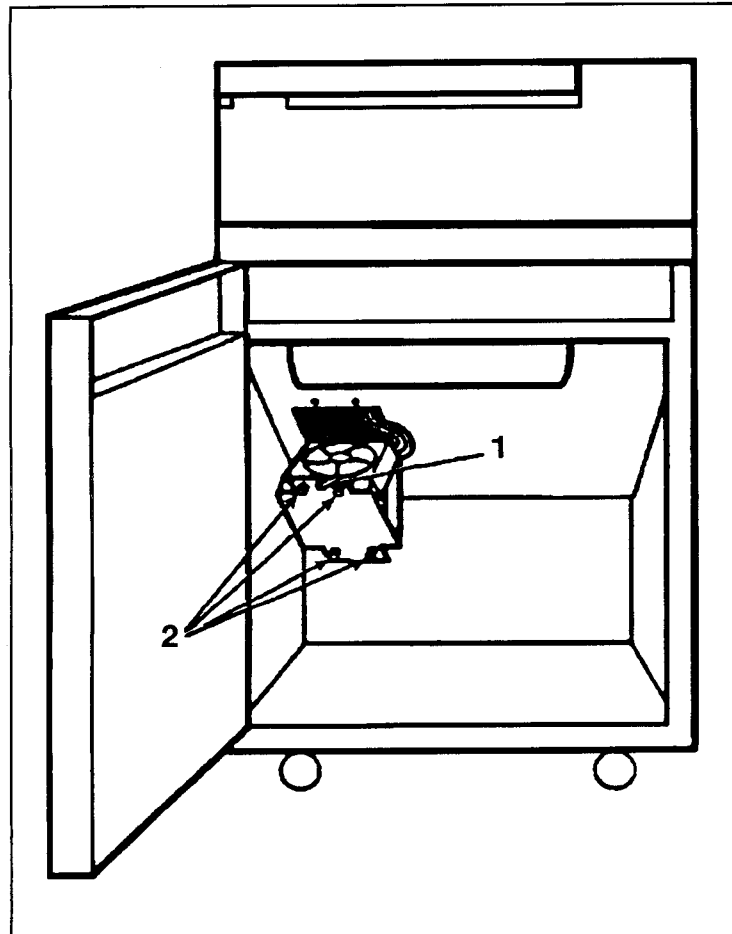

Figure 6-26. Lower Fan Removal
The lower fan is located inside the cabinet under the printer (see Figure 6-26).
- b. Open the front cabinet door (see Figure 6-26).
- c. Remove the screw from the lower fan cover/bracket (see Figure 6-26) and pull out on the four plastic fasteners to release the fan.